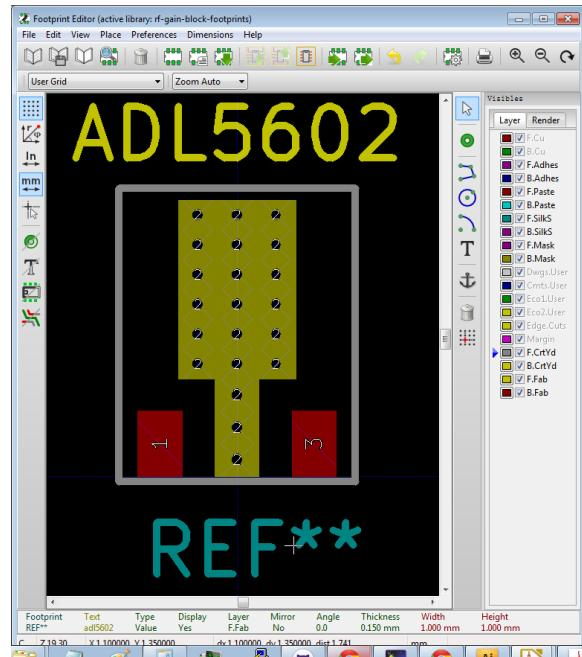

Figure 39: KiCad footprint for ADL5602.
5. The final footprint is shown in Fig. 39. A courtyard outline has also been added.